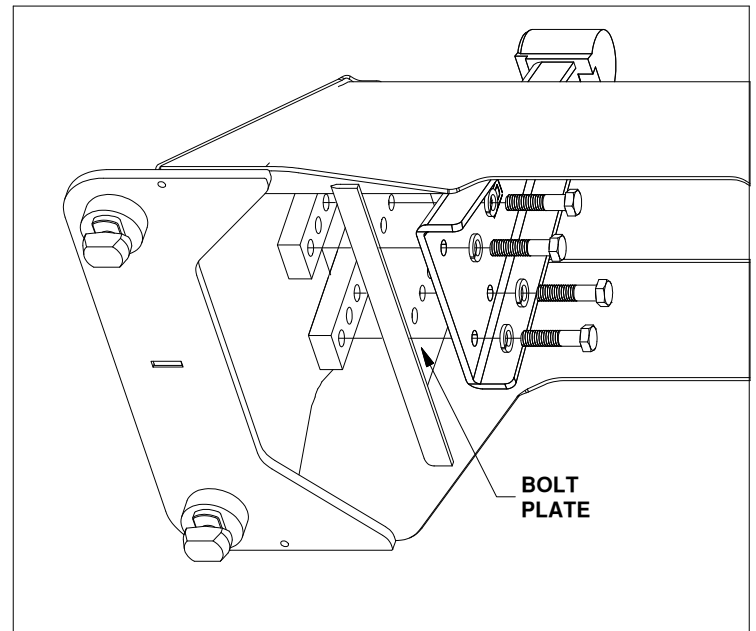

Figure A2: Passenger pivot arm mounting location.
2. Locate both pivot arms, the four 3/4" threaded blocks, eight 1/2" cap screws, and eight 1/2" split lock washers. Place the lock washers over the cap screws. Align the flat side of the pivot arm flat against the bolt plate and install four 1/2" cap screws through the holes on the arm, holding the arm in place, as shown in Figure A2. Locate the threaded blocks. Note that the sides of the block have threaded holes on one side and smooth bored holes on the other side. When installing the threaded blocks it is critical that the side with the smooth holes is flat against the bolt plate when installed. Pass the threaded block under the bases side and align the block with each set of screws and start each screw, as shown in Figure A2. After all the screws are started through the arms, torque each bolt to 110 ft-lbs.